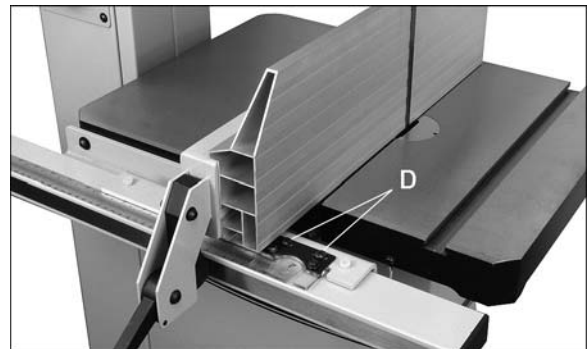

Figure 9
Place fence body onto guide tube (as shown in Figure 9). Raise fence lever all the way up to install or remove fence from guide rail. Midway lever position allows fence to slide along guide rail. Lowest lever position locks fence in place.
Refer to Figure 9.
3. If cursor is not at zero, loosen two screws (D, Figure 9) and shift cursor as needed. Retighten screws.